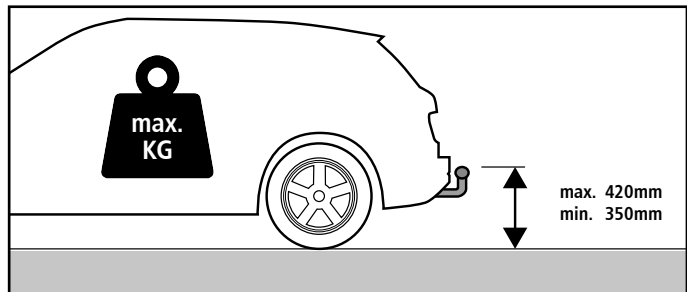

Figure 1: Dimensions for the upper edge of the trailer coupling after raising
2. With the vehicle standing measure the distance between the hub center mark and the wing/fender center (Figure 1), and note this value down (page 23 provides space for your notes).